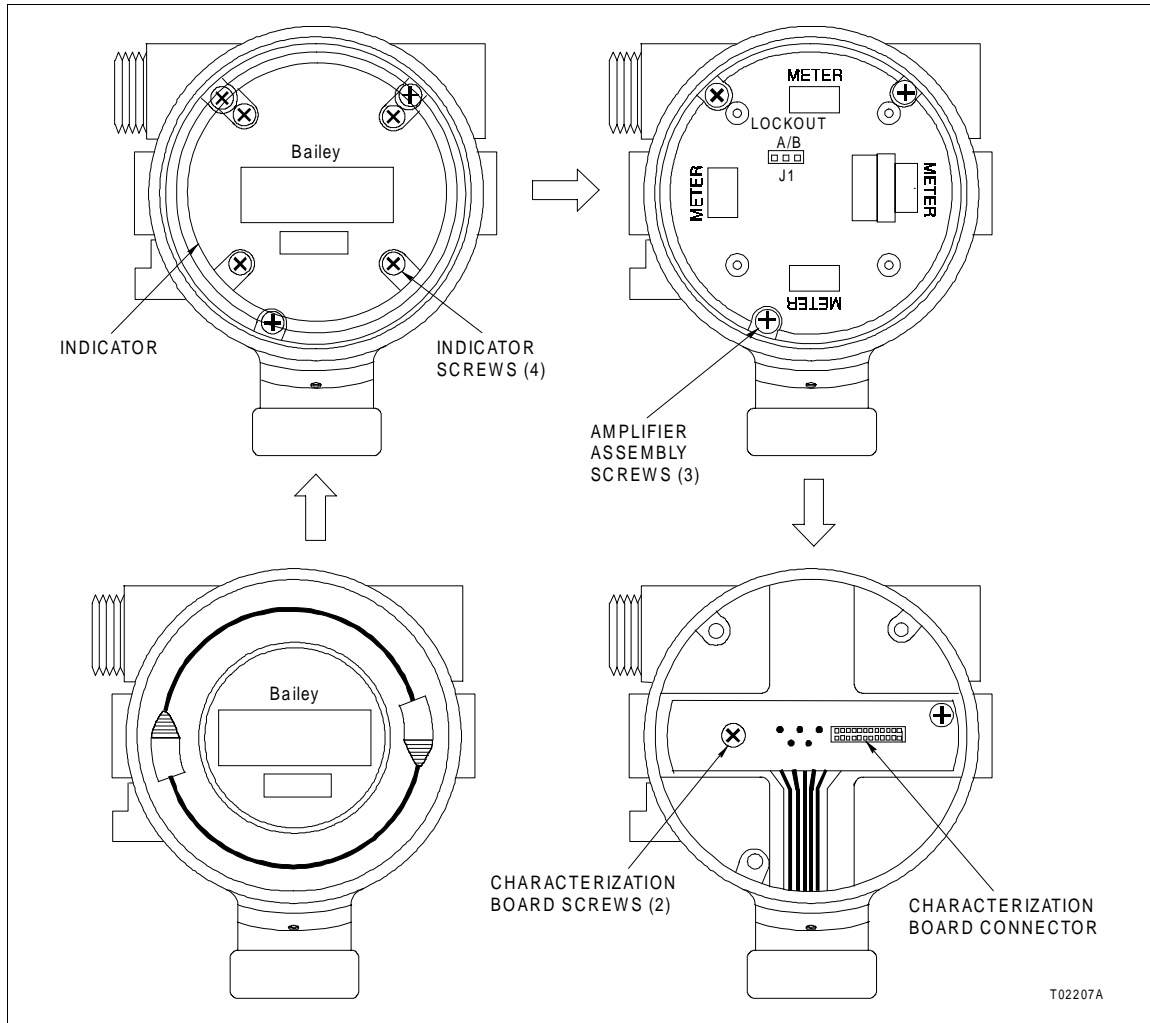

Figure 8-1. Internal Transmitter Components
Use Figures 8-1 and 8-2 as visual aids when performing these procedures.
3. Use the Phillips screwdriver to remove the three screws that secure the amplifier assembly to the electronics housing (Fig. 8-1).
4. Gently pull the amplifier assembly out of the electronics housing to unplug it from the characterization board connector (Fig. 8-1).
5. Remove the two screws securing the characterization board to the electronics housing (Fig. 8-1).
7. Mount the characterization board to the electronics housing and install the two screws (Fig. 8-1).